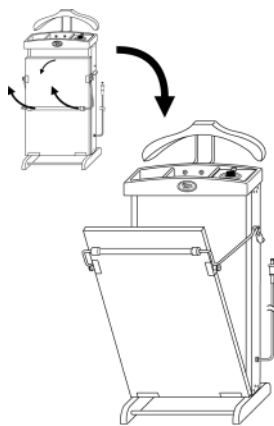

FIGURE 3
1. Slowly pull Plated Pressing Bar up and open Front Pressing Plate. Plated Pressing Bar will ‘catch’, holding Front Pressing Plate in “open” position (FIGURE 3).